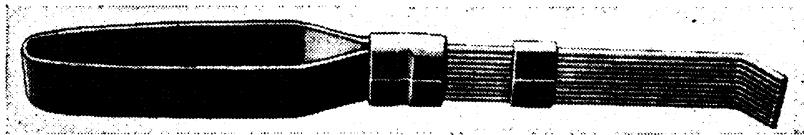

FIGURE 76.—Carbon scraper.
(4) *Carbon scrapers.*—The carbon scraper (fig. 76) is a tool commonly used by motor vehicle mechanics for cleaning carbon deposits from cylinder heads, pistons, and chambers of gasoline engines. This scraper has a dull edge to lessen the danger of scoring the piston or cylinder wall.